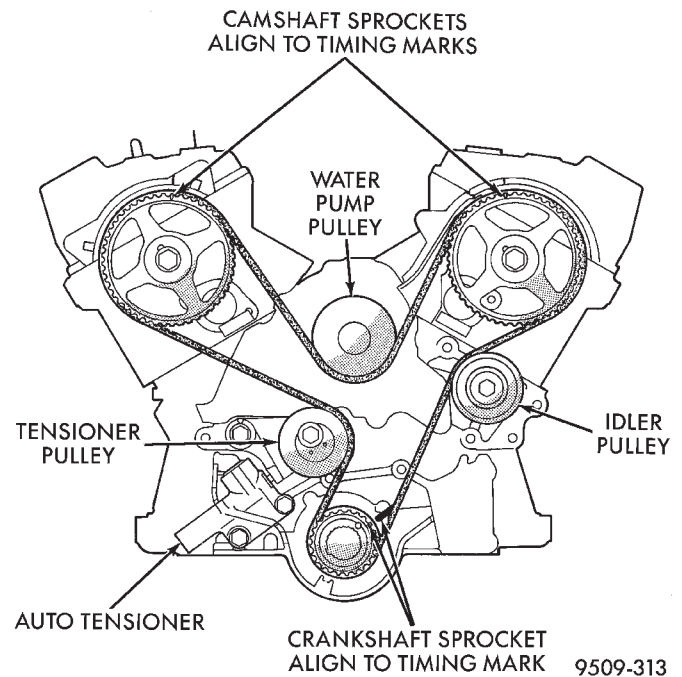

Fig. 62 Timing Belt Engine Sprocket Timing
- (3) Loosen timing belt auto tensioner bolts (Fig. 62) and remove timing belt.
(6) Rotate crankshaft 2 revolutions in a clockwise direction ONLY and check the alignment of the timing marks (Fig. 62). Install tensioner pin into assembly. The pin should slide in and out without any resistance. If the pin does not slide freely, perform the procedure again.
(7) Install timing belt covers. Refer to procedure in this section.